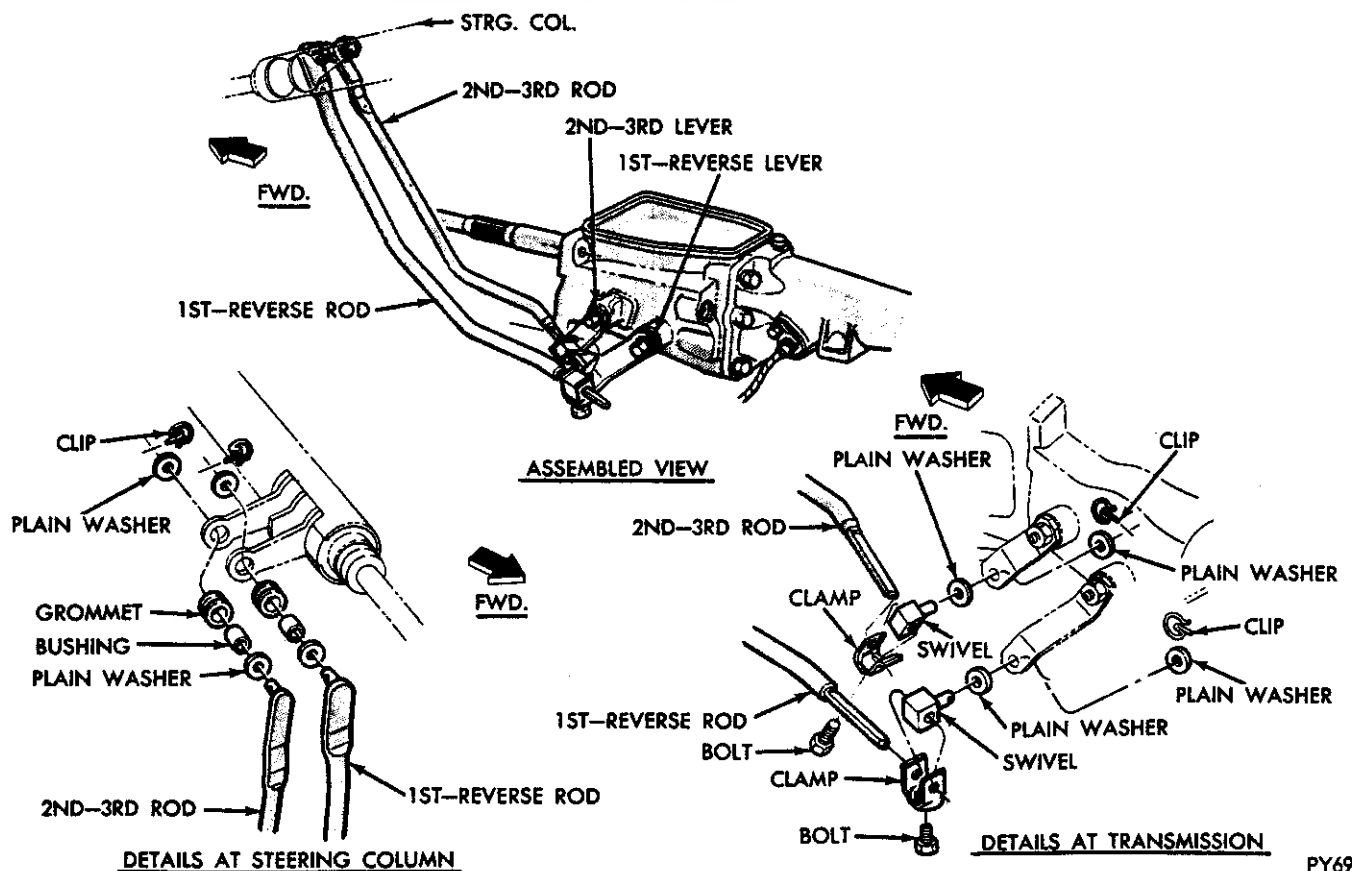

Fig. 44—Column Shift (A-230) (Dart)
(1) Remove both shift rod swivels from transmission shift levers (Fig. 44).
(2) Make sure transmission shift levers are in neutral (middle detent) position.
(3) Move shift lever to line up locating slots in bottom of steering column shift housing and bearing